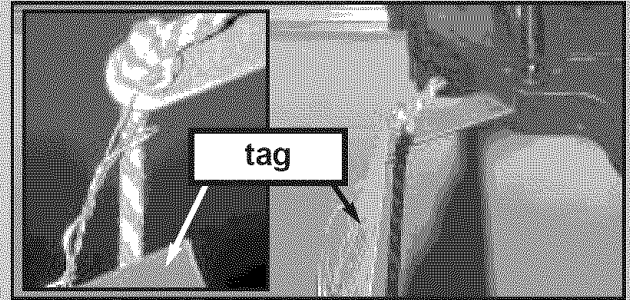

Fig. 1-18
- Tie a second knot in this end. **Fig. 1-18.**